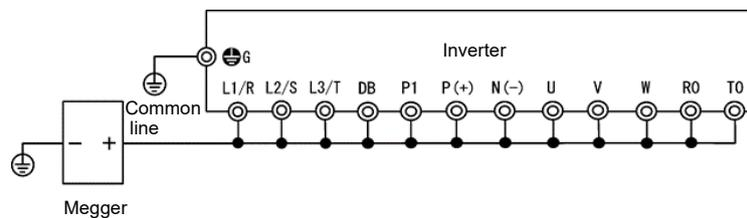

Fig. 7.6-1 Main circuit terminal connection for Megger test
- 3) Connect the main circuit terminals with common wire as shown in Fig. 7.6-1. (Terminals [R0] and [T0] can be found on the FRN0008 to 0432G2S-2G/FRN0004 to 1480G2□-4G.)